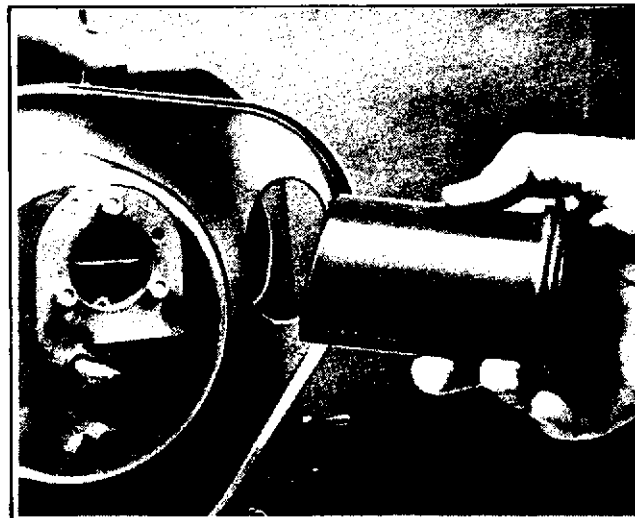

Figure 8-26. Installing Air Cleaner Back Plate and Tube
2. Connect air cleaner back plate. Make sure tube from breather assembly protrudes through hole in back plate as shown in Figure 8-26.
3. Slide air cleaner tube through back plate and into blower housing. (NOTE: Make sure tube is inserted so that the longest side of the angled tube end is facing downward, as in Figure 8-26. Also make sure lips of tube are in place around back plate hole.)